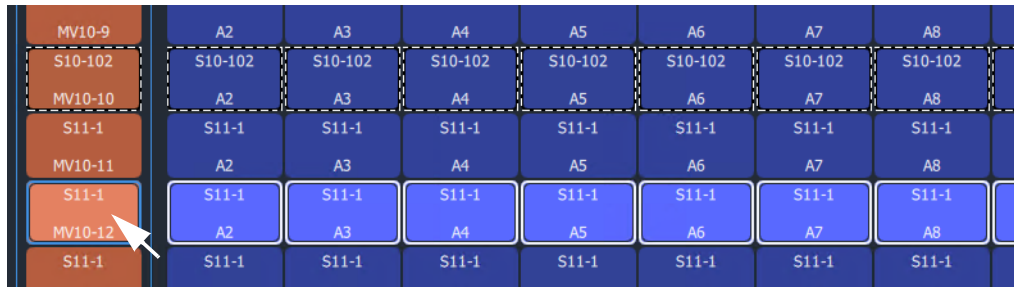

Fig. 11-84: 'Copy To' Destination Selected
- 3 Select a Destination to 'copy to'. (See Figure 11-84.)